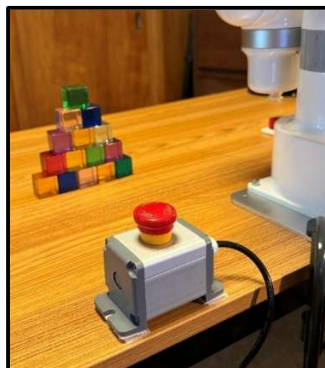

Figure 5
2. Make sure that the **Emergency Stop Button**, shown in Figure 5, is within easy reach. It might even be a good idea to have one student with his or her hand above the button when the program is started, in the event that it becomes necessary to instantly terminate all motion of ORA's arm and cancel any commands.